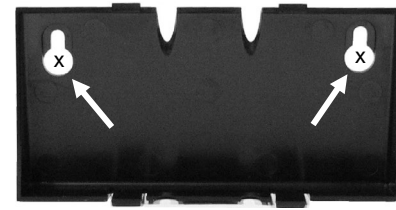

Figure 3. Screw-mount holes on bracket
Install the bracket on the charger as shown in Figure 3. The tabs on top and bottom of the bracket fit into the four rectangular holes on the back of the charger.
- Hold the bracket against the wall at the desired mounting location, a little below eye level and not more than 5.5 feet (1.68 meter) from an electrical outlet, away from splashing grease or water. Mark the wall through the two screw-mount holes on the bracket, shown in Figure 3.
- Mount the charger on the wall by placing the holes in the bracket (or the holes on the back of the charger for flush mounting), shown in Figures 3 and 4, over the two screws on the wall and then sliding the charger downward to secure it in place.